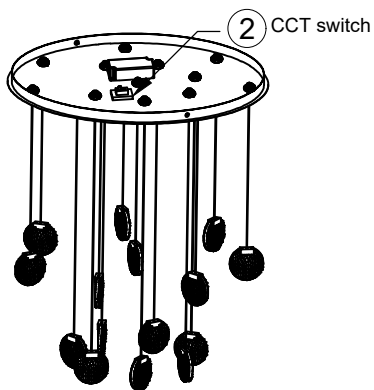

Fig. 1
- Select the appropriate color temperature by turning the CCT switch: 3000K, 3500K, 4000K. (Fig. 1)